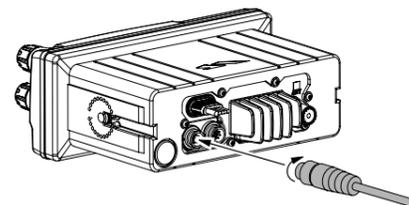

FIGURE 1
- Connect the Extension Cable to the 8-pin connector on the transceivers rear panel, then tighten the Cable Nut (Figure 1).